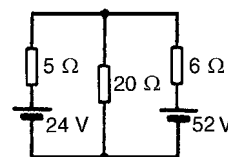

Figure 13.27
- 4 Use the superposition theorem to determine the current in each branch of the arrangement shown in Fig. 13.27